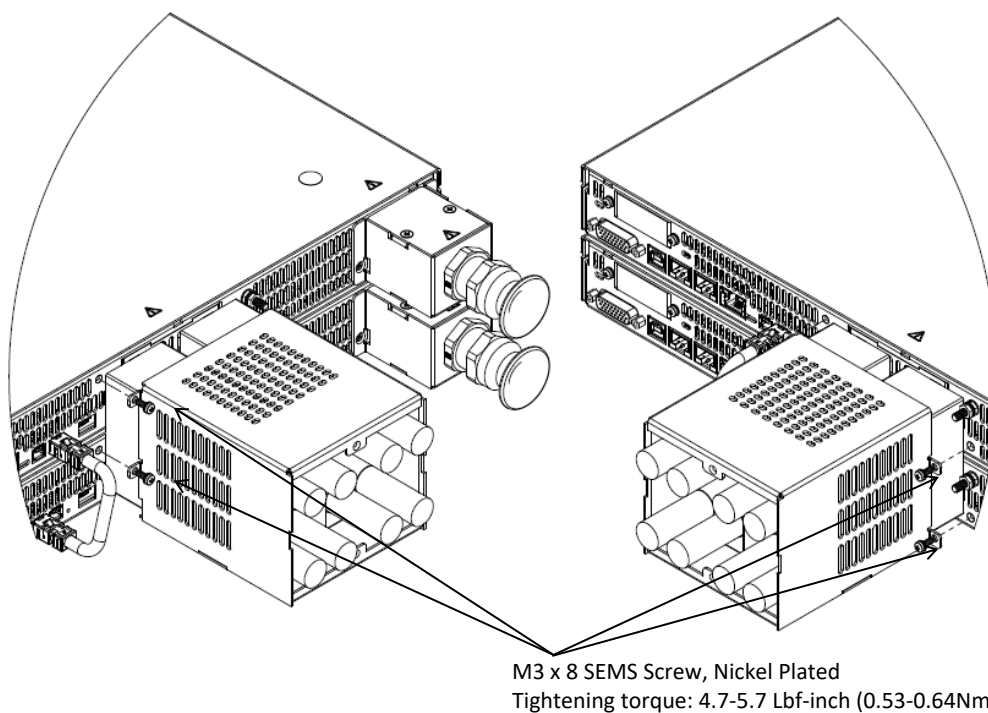

Figure 7: Two 10V Units Output Cover Assembly
7. Fix output cover to the power supplies using four SEMS screw as illustrated in Figure 7.